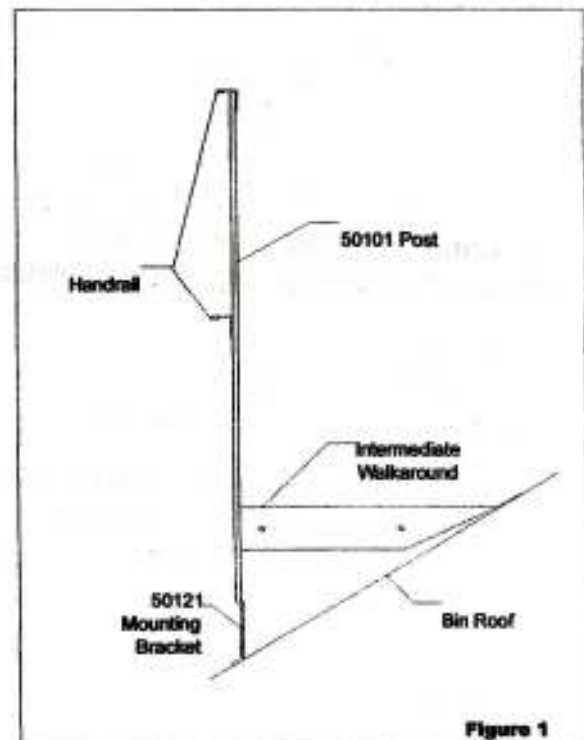

Figure 1
Step 1: On the ground: Bolt together (3) pieces of walkaround using (2) 5/16" x 3/4" bolts through the bottom flanges of each joint. Assemble the remaining sections to like assemblies.
Step 4: To fasten handrail posts and mounting brackets to walkaround deck, bolt through the walkaround flange and the handrail post, placing the mounting bracket at the hole option to set the deck level. Attach to roof using 5/16" bin bolt. Repeat this procedure around the entire assembly. Refer to Figure 1.